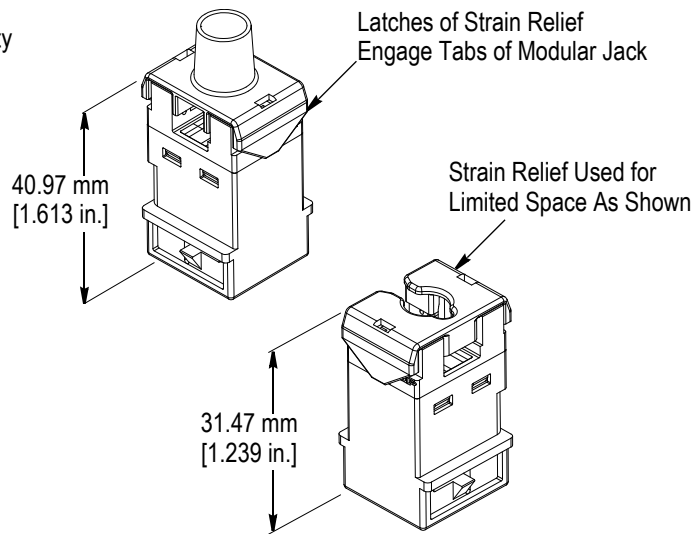

Figure 3
- Align and lace a color-coded wire pair with the appropriate slots of the modular jack as indicated by the color coding on the wiring label (use minimum slack while maintaining twist, as indicated in Figure 3). Keep wire pairs twisted to within 12.7 mm [.50 in.] for Category 5e modular jacks and 6.0 mm [.24 in.] for Category 6 modular jacks.
Set the impact tool setting for low-impact. Position the tool so the cutoff blade is on the outside of the modular jack and oriented vertically. Refer to Figure 3.
- If used, slide the bend-limiting strain relief onto the modular jack until the latches on the strain relief engage the tabs on the rear of the modular jack as indicated in Figure 3.